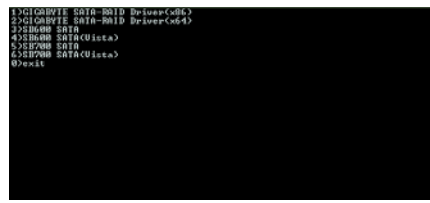
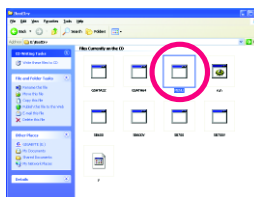

Figure 2
Figure 3
Step 2: When the controller menu (Figure 2) appears, remove the startup disk and insert the blank formatted disk. Select the controller driver by pressing the corresponding letter from the menu. For example, from the menu in Figure 2, to install Windows XP to your RAID/AHCI hard drives, select **(5) SB700 SATA** for the AMD SB700 SATA controller. To install Windows Vista to your RAID/AHCI hard drives, select **(6) SB700 SATA(Vista)** for the AMD SB700 SATA controller. Your system will then automatically zip and transfer this driver file to the floppy disk. Press <0> to exit when finished.
Use an alternative system and insert the motherboard driver disk. From your optical drive folder, double click the **MENU.exe** file in the **BootDrv** folder (Figure 3). A command prompt window will open similar to that in Figure 2.